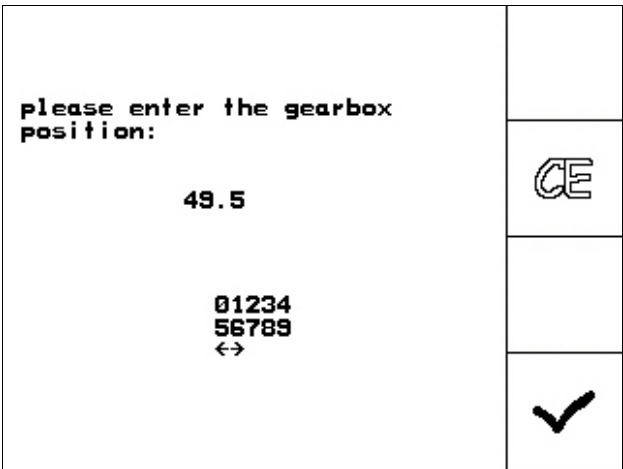

Fig. 72
-  Confirm the setting and enter the figure that is indicated, on the scale, by the gearbox setting lever in the now open input block (Fig. 72)